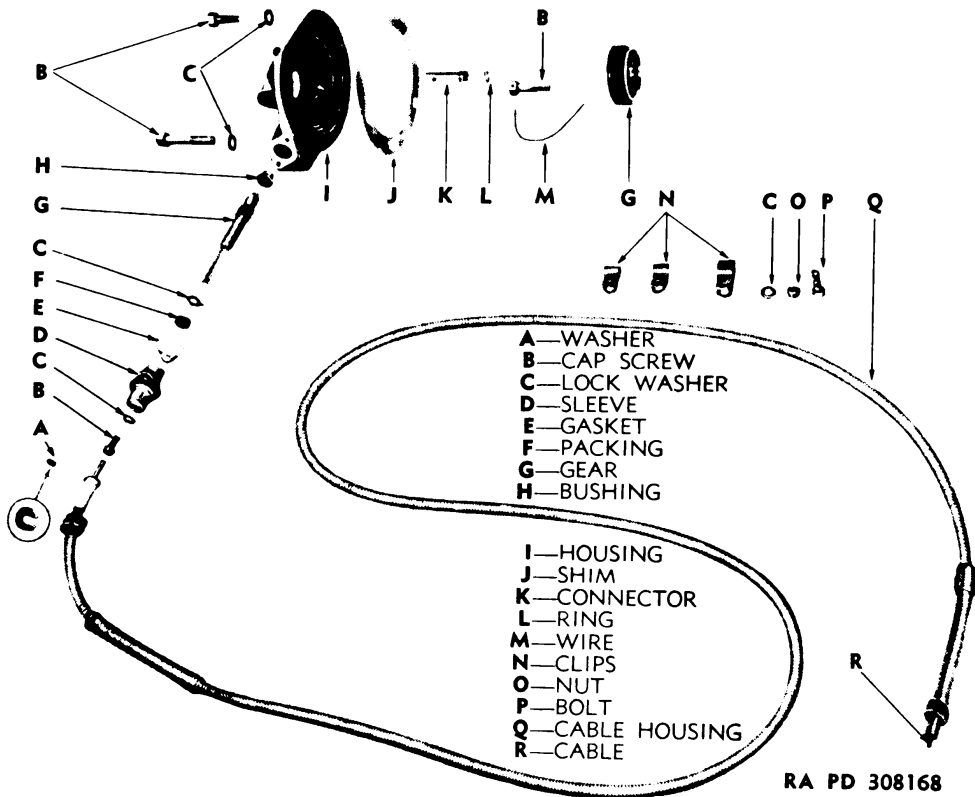

Figure 66 — Speedometer Drive Assembly Disassembled
b. **Install Speedometer Drive Assembly.** A small oil piping connector is pressed into the speedometer drive housing and has a small sealing ring similar to a piston ring in a groove towards inner end of shaft (fig. 66). When drive assembly is installed, the end of connector and sealing ring enters the bore of speedometer drive gear. The sealing ring must have a gap of 0.002 to 0.003 inch and fit freely in groove, and shaft must slip freely into gear to prevent gear from freezing to shaft during operation. Attach housing to transmission case with six cap screws with lock washers (fig. 17).
a. Assembly (fig. 66). Press new bushing for shorter end of speedometer drive shaft into housing, also press oil piping connector into center of housing with end of connector flush with outer side of housing. Slip drive gear onto other end of connector over sealing ring to check for 0.002- to 0.003-inch gap in sealing ring. Insert shorter end of driven gear shaft into bushing installed in housing. Install new packing and washer in drive sleeve, slip new sleeve gasket over lower end of sleeve, then install sleeve over driven gear shaft and into housing. Attach with two cap screws and lock washers. Lubricate flexible shaft, insert shaft through flexible housing, and slip retaining washer or washers on ends of shaft.